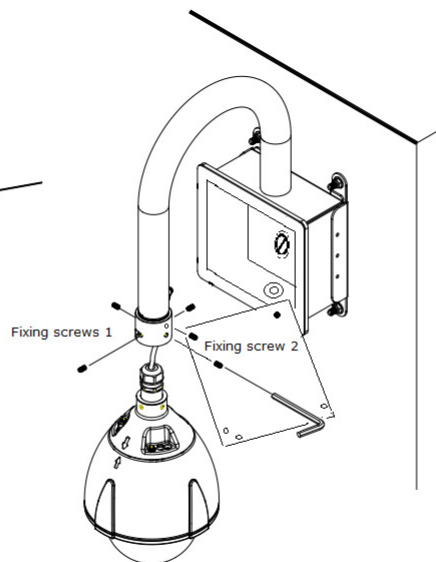

Figure 3
- H) Use torx wrench to secure the attached fixing screw 1 to the connector ring. Use allen wrench to secure the fixing screw to the bracket. This allen wrench is supplied in the bracket (Figure 3)
Connect the camera to the connector ring in the clockwise direction. Then secure the fixing screws 1 and 2 to the connector ring with a supplied torx wrench. (Figure 3)